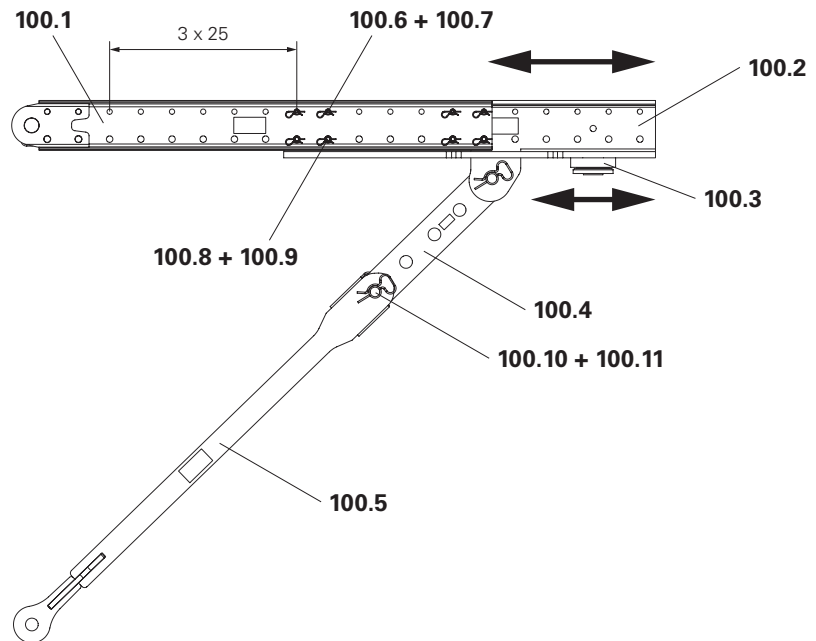

Fig. H1.01
(Fig. H1.01)
- With the help of the telescopic arm, the Bearing Frame VRB can be extended in three increments of 25 cm. The Bearing Frame VRB can be extended by a total of 75 cm. (Fig. H1.01)
Always fit the telescopic box (**100.2**) with all four filler pins (**100.6 + 100.8**). (Fig. H1.01)